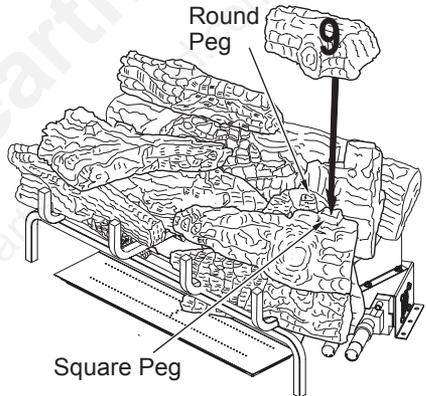

Figure 52 - Installing Log # 9
9. Place the top right log (#9) on top of the right rear chunk log (#7) and front right mid log (#8) as shown in Figure 52. Match the round peg on the top of the right rear chunk log (#7) with the round hole on the bottom of the top right log (#9) and square peg on the top of the front right mid log (#8) with the square hole on the bottom of the top right log (#9).